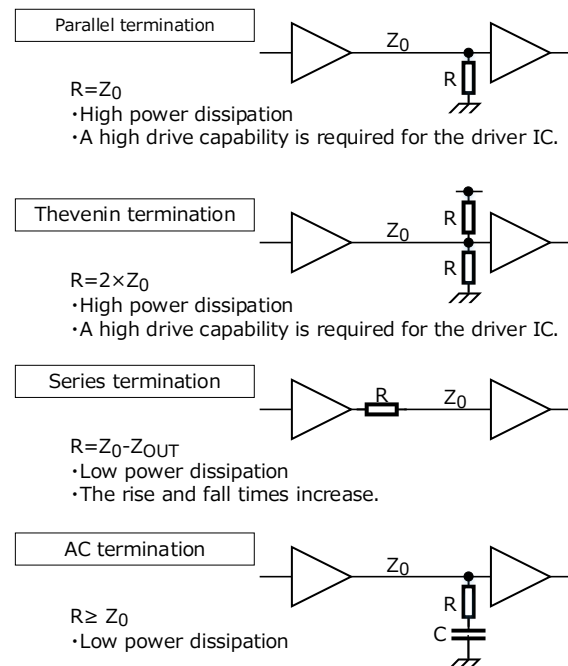

Figure 4.5 Examples of electrical termination
- Provide electrical termination so that the I/O impedance of a CMOS logic IC matches the characteristic impedance of the transmission line (Figure 4.5).